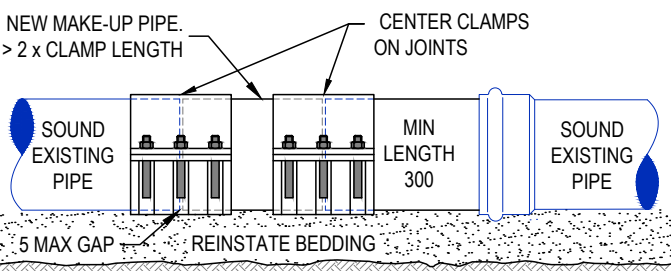

FIGURE 514-F: PIPE INSERTION USING CLAMPS
- Ensure the sealing range of the selected product can accommodate the outside diameter of both the existing main and make up piece as per Figure 514-E.
- Slip couplings and clamps may only be used where the make up piece and existing host main have the same outside diameter (+/- 1). Refer Figure 514-D & F .